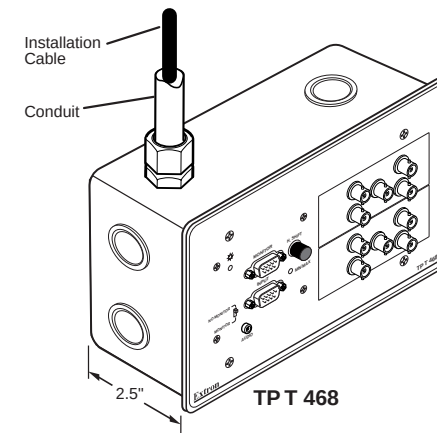

Figure A-1 — TP T 468 in a four-gang wall box
The following Underwriters Laboratories (UL) requirements pertain to the installation of the TP T 460/468 into a wall or furniture (figure A-1).